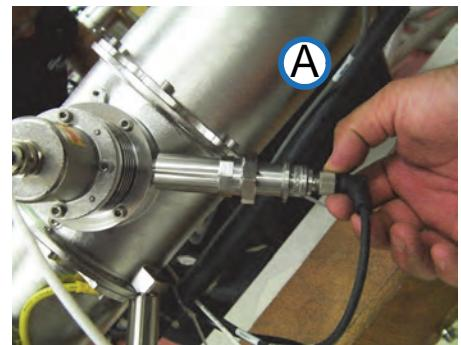

Figure 11-25: Replacing the Sensors (Generic View 1)
Step 1. To disconnect the harness connector (shown in view **A** in **Figure 11-25**), unscrew the sensor's threaded locking nut.